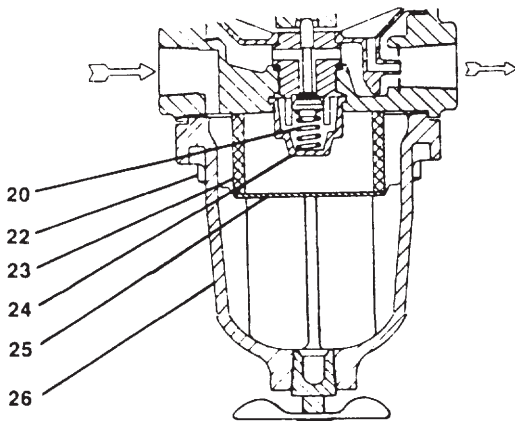

FIG. 3
In integral filter types, place spring (20) into valve spring retainer (24), see figure 3, place filter support disc (25) and filter (23) in filter case (26). Assemble gasket (12) and filter case to main body. Insert screws (22) and tighten.